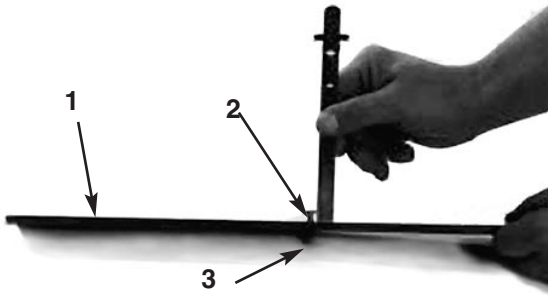

Figure 7
3. Loosen the nut on the gauge bar (Fig. 7) and set the adjusting screw to desired height of cut. The distance between the bottom of the screw head and the face of the bar is height of cut.